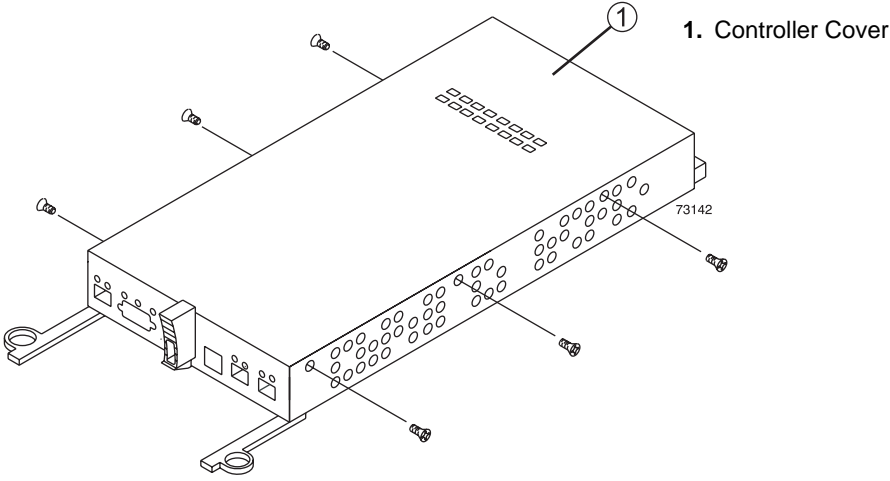

Figure 4-9 Removing the Controller Cover (Upside-Down View)
- a** Turn the controller upside down, remove the screws securing the controller cover, and remove the cover. Figure 4-9 on page 4-11 shows the cover and screws.
- g** Replace the controller cover and secure the screws. Figure 4-9 on page 4-11 shows these screws.